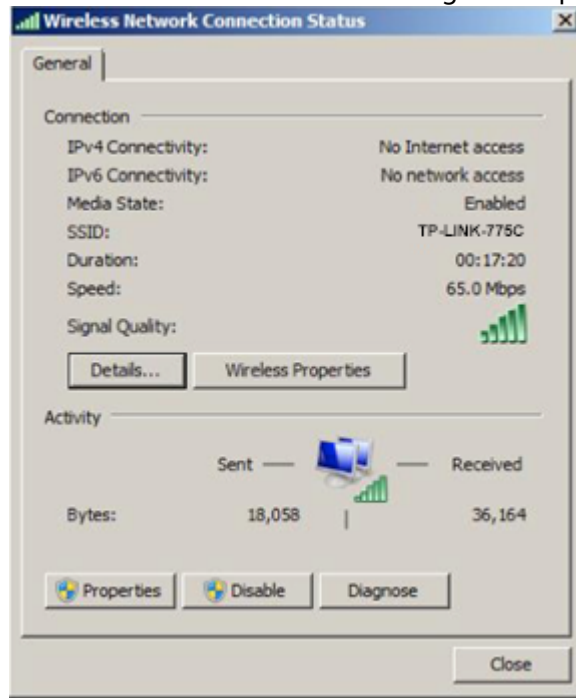

Figure 75: Wireless Network Connection Status Window
10. The *Wireless Network Connection Status* dialog-box displays. (Figure 75)